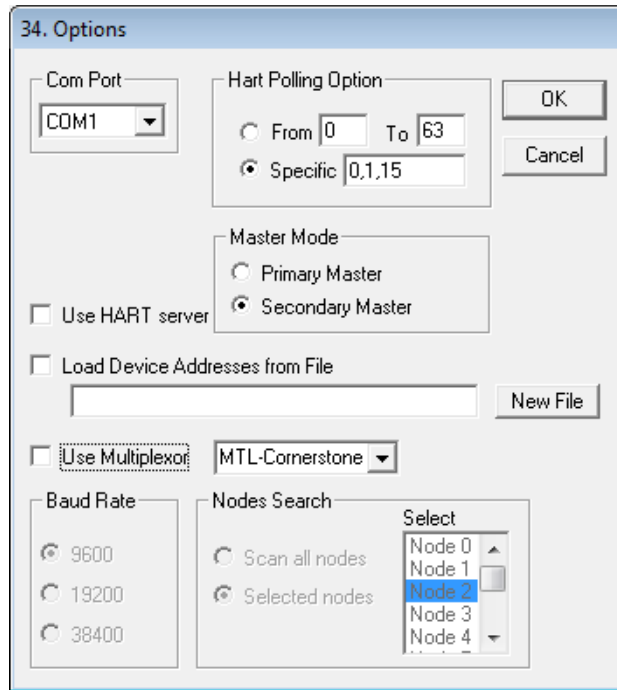

Figure 26 ValVue Options Dialog
2. Select **Set Options** to open the *Options* dialog (Figure 26).